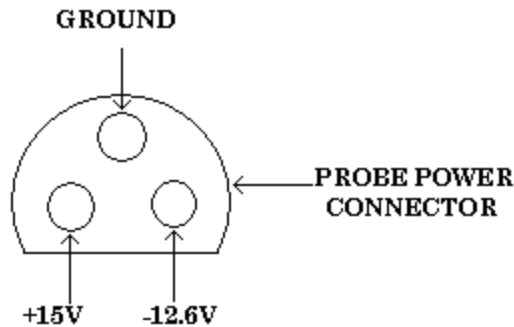

Figure 5. Probe power connector.
- (9) Connect multimeter to TI probe power connector (fig. 5) and verify voltages are within limits specified in table 24.